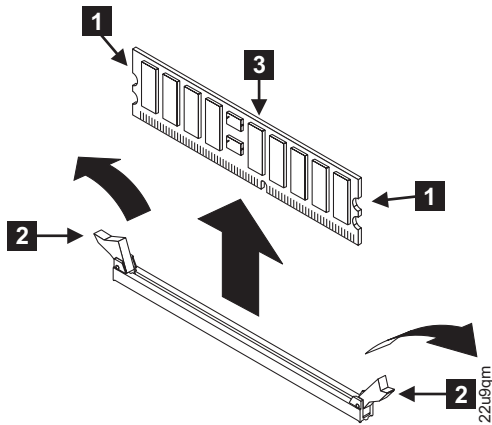

Figure 95. Removing the memory modules
6. Open the clips **2** by pressing them outward, as shown in Figure 95 on page 106. This action pulls the memory module **3** out of the connector.